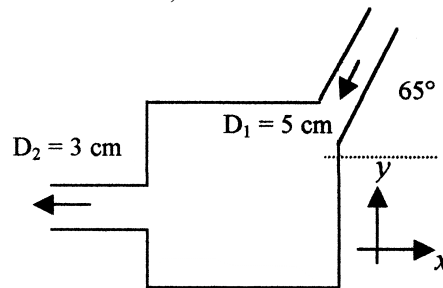

Fig. P3.61
P3.61 Water at 20°C flows steadily through the box in Fig. P3.61, entering station (1) at 2 m/s. Calculate the (a) horizontal; and (b) vertical forces required to hold the box stationary against the flow momentum.